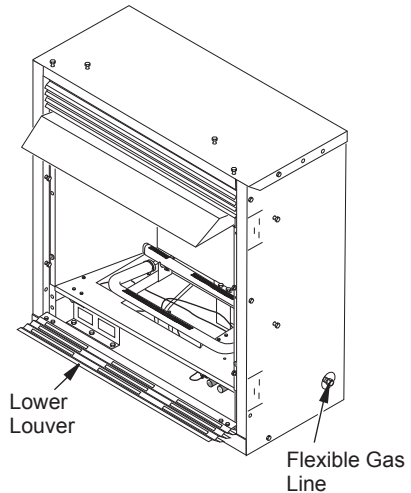

Figure 21 - Flexible Gas Line Location
1. Open lower louver (see Figure 21).
NOTICE: Most building codes do not permit concealed gas connections. A flexible gas line is provided to allow accessibility from the fireplace (see Figure 21). The flexible gas supply line connection to the equipment shutoff valve should be accessible.